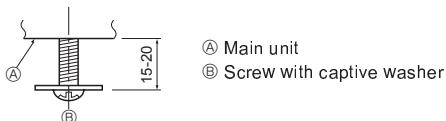
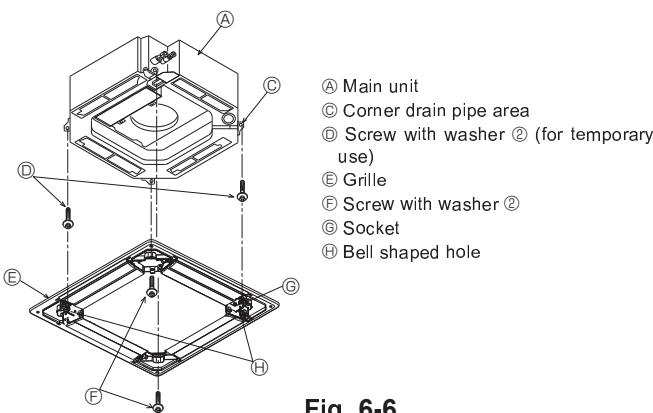
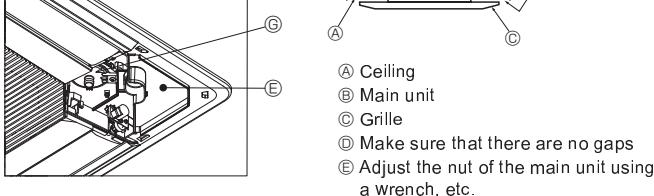

Fig. 6-5
Fig. 6-6
Fig. 6-7
6.4.1. Preparations (Fig. 6-5)
- Install the 2 enclosed screws with washer ② in the main unit (at the corner drain pipe area and at the opposite corner) as shown in the diagram.
6.4.2. Temporary installation of the grille (Fig. 6-6)
- Temporarily secure the grille using the bell shaped holes by putting the socket of the grille marked ⑥ on the corner drain pipe area of the main unit.
6.4.3. Securing the grille (Fig. 6-7)